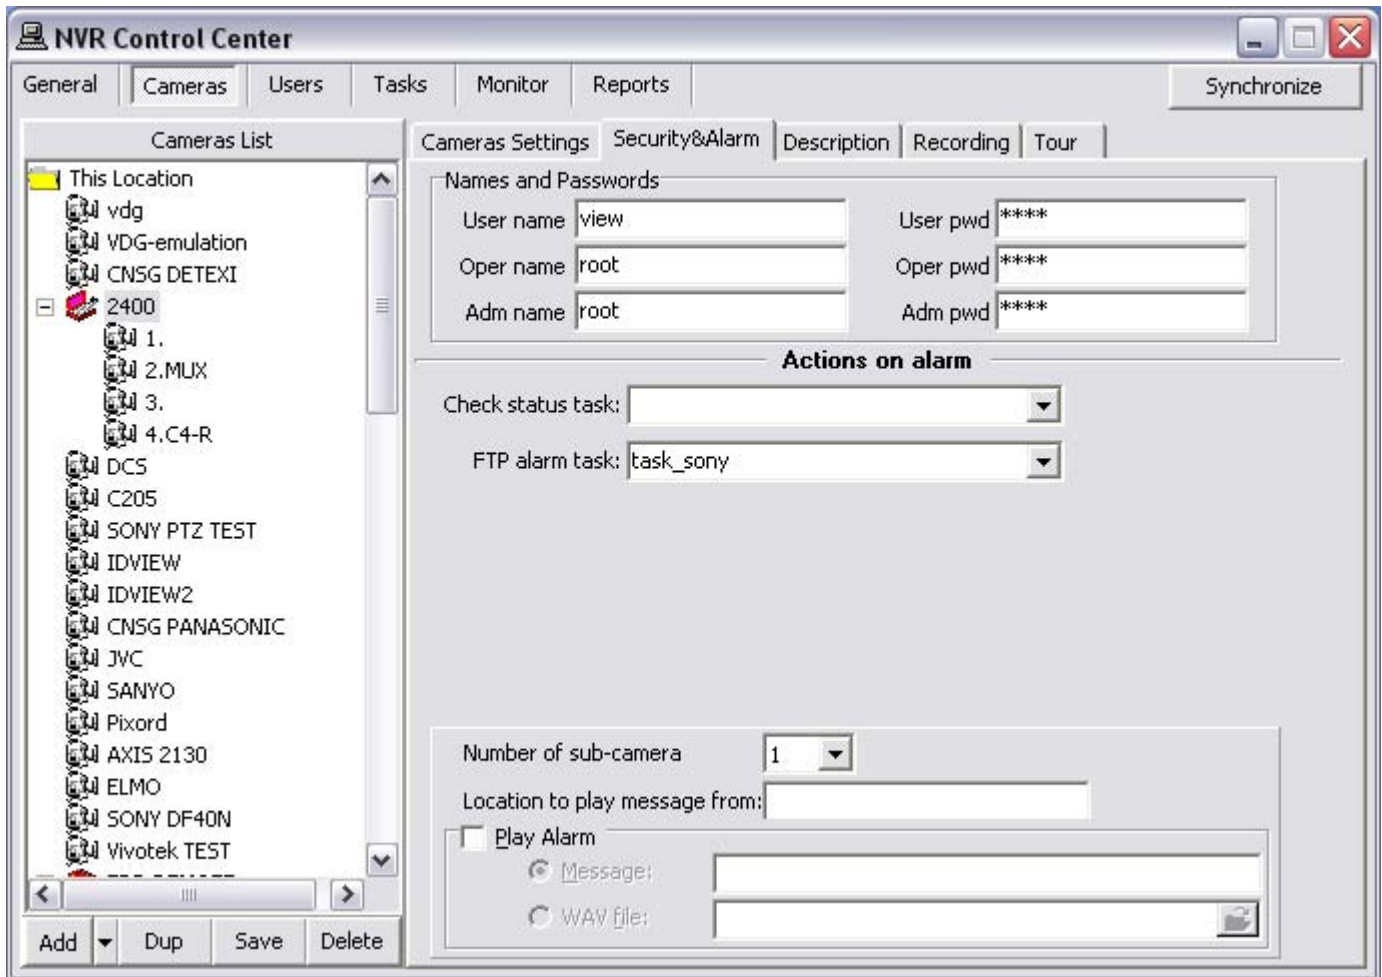

Fig 25. NVR Control Center — Cameras — Security & Alarm
1. In the **NVR Control Center — Cameras** select a camera from the **Cameras List** and switch to the **Security & Alarm** (Fig 25).